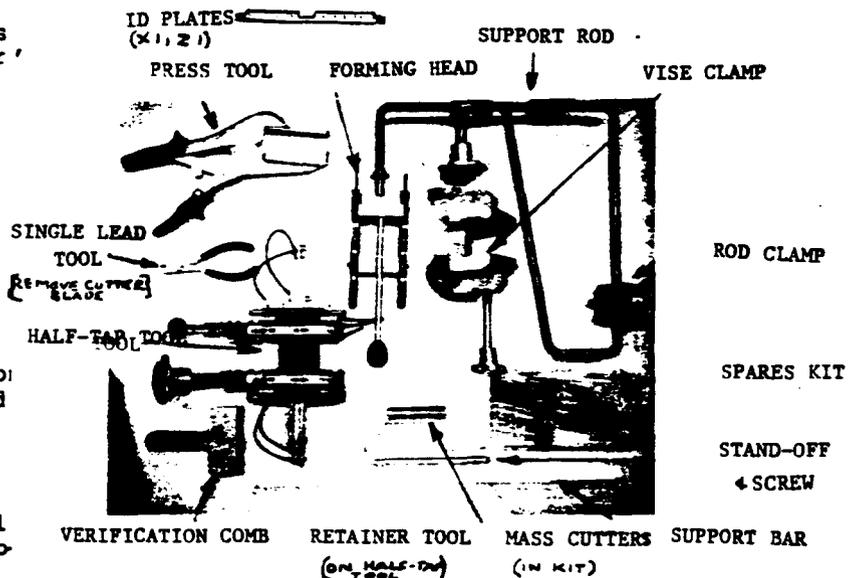

FIG. 6 TOOL SET 553 (PAR. 3.232)
3.232 Tool Set 553 Details (See Fig. 6) Tool Set 553 specification and check list are included in case.